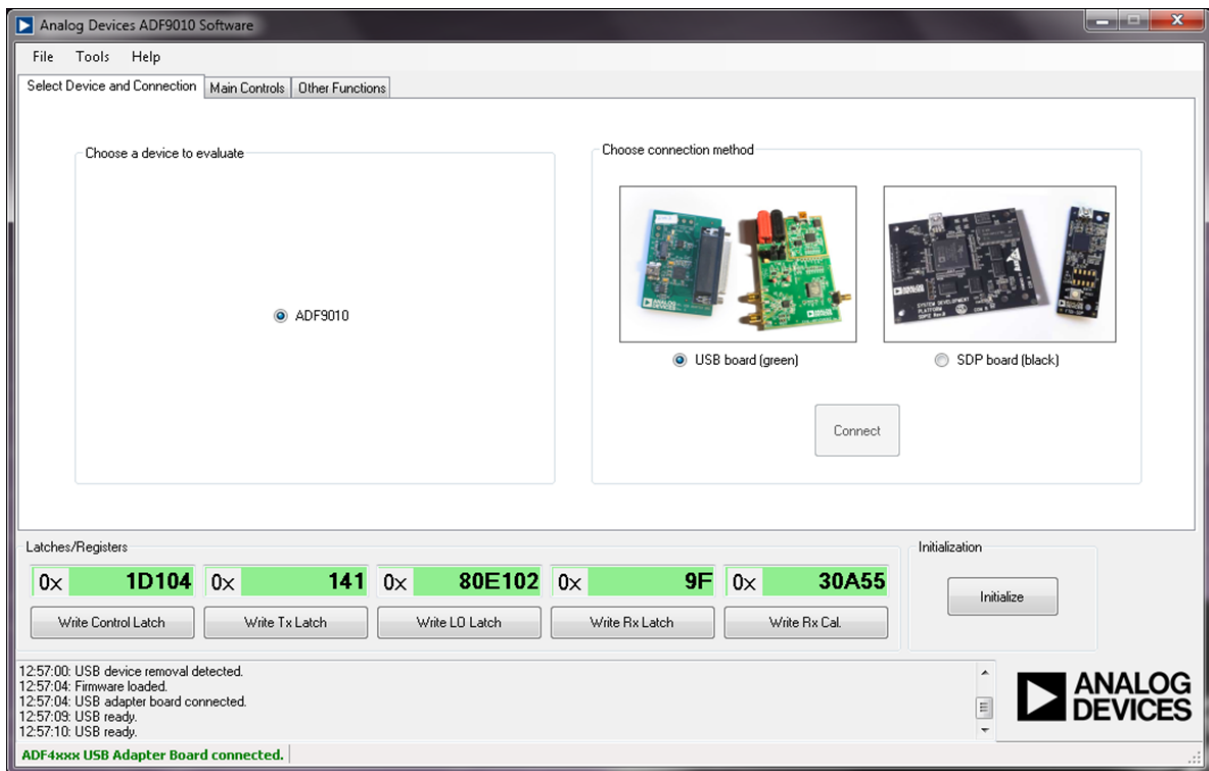

Figure 6. Software Device Selection
2. In the first window, select **ADF9010** and **USB board (green)**; then click **Connect** (see Figure 6).